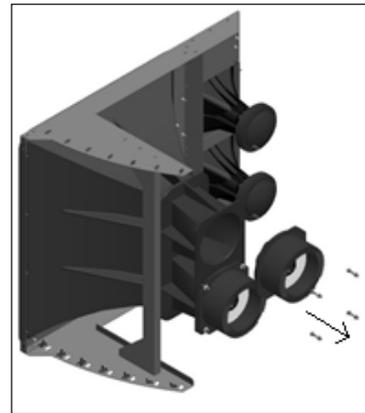

Figure 27: A-2305 Removal
- c. Pull off bad driver. Refer to **Figure 27**.